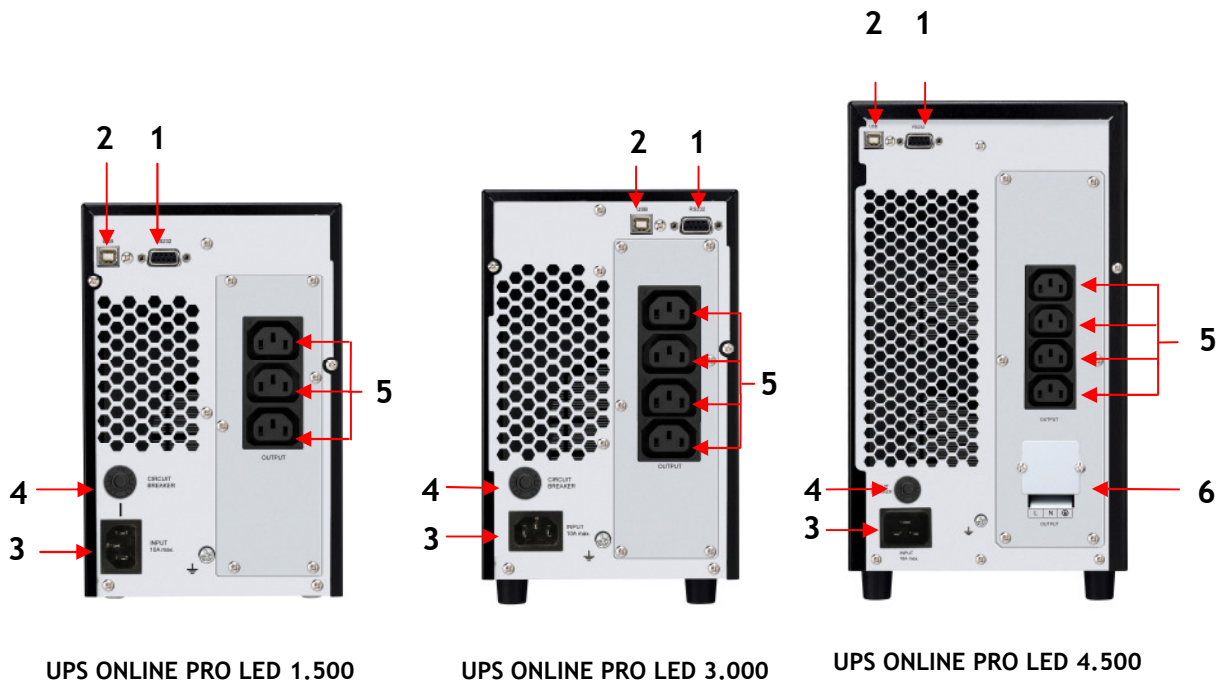

Figure 4 - Rear Side
1. Through the included power cable connect the UPS Input socket to the AC line outlet (see figure 4). It is **mandatory to ground the AC line outlet according to the Safety Standards**. Carefully check the grounding of AC line outlet.